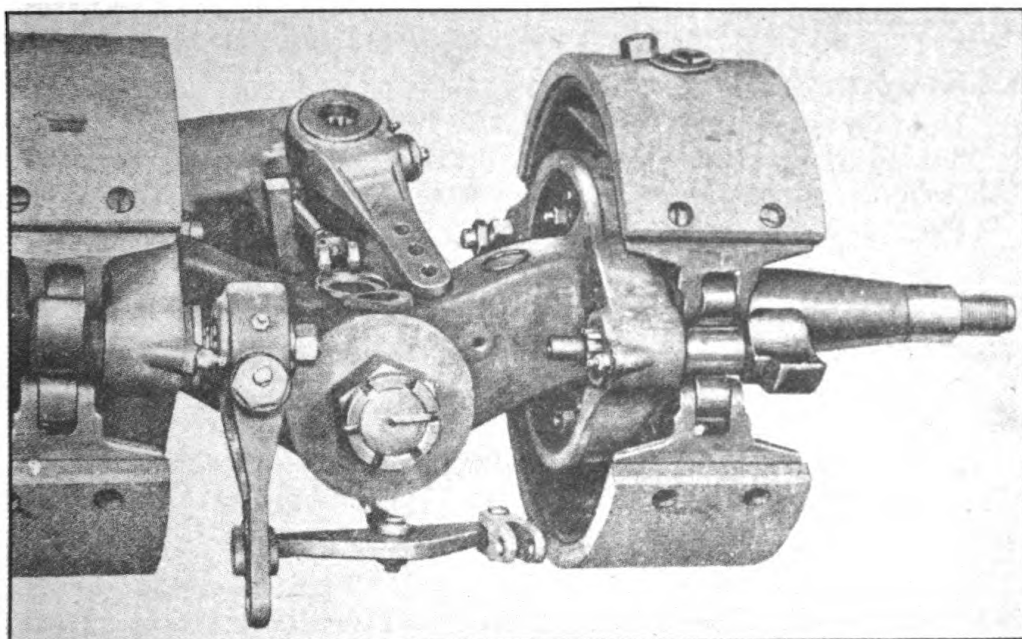

FIGURE 22. REMOVING CAM—STEP THREE
- (5) Pull cam out, and remove felt snap ring and felt retainer (Figure 22).
(6) To replace cam, pack needle bearings with a medium light chassis grease, working grease into bearings with finger. Hold the brake shoes apart and insert cam in position. Care should be taken not to harm the needle bearings in the mounting plate brake adapter. Reverse the procedure outlined above.